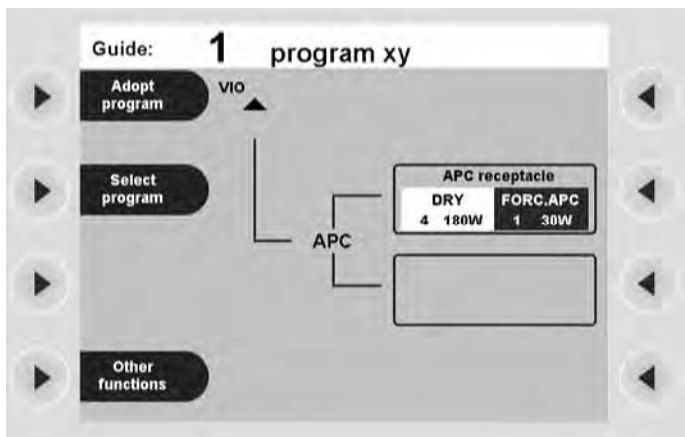

Fig. 5-2
In the sample display (Fig. 5-2) the compatible APC has one receptacle (1). The box showing the second receptacle (2) is empty.